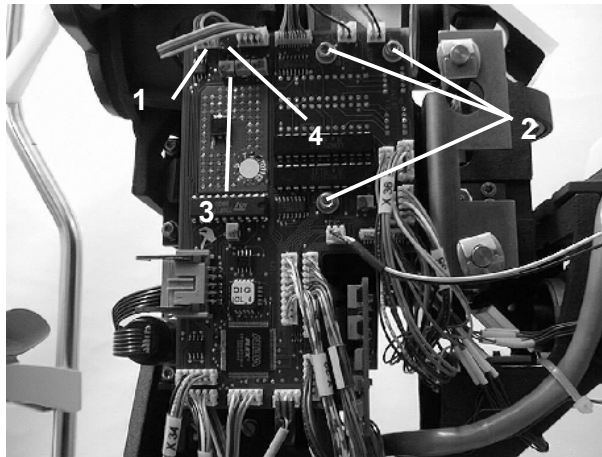

Fig. 23
After disconnecting connector ((1) Fig. 23), immediately plug short-circuit plug 1078-821 into the connector removed (connection of the laser diode)
- Remove three screws ((2) Fig. 23) and then the PCB.
- Tighten screw ((2) Fig. 23) of the PCB.
- When you install a new Digital IOL PCB, adjust the two potentiometers ((3 and 4) Fig. 23) to their left-hand stops, i. e. give them at least 10 turns to the left.